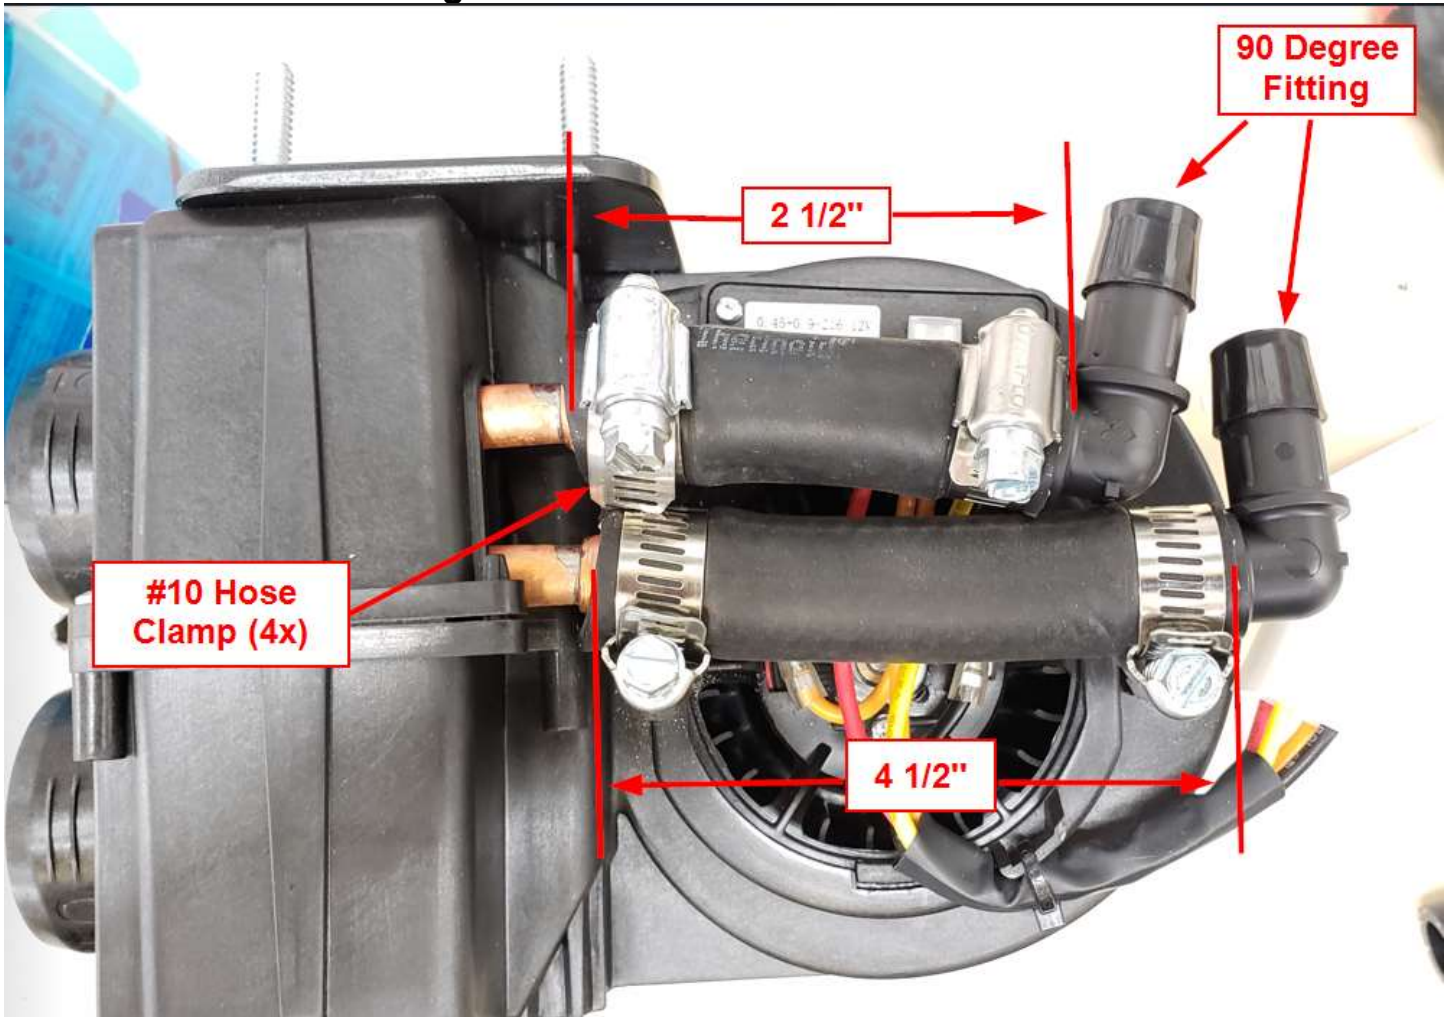

Figure 15
- d. Cut 2 1/2" piece of 5/8" Heater Hose and attach it to the Heater Unit as shown in Figure 15. Insert (1) 90 Degree Fitting as shown. Secure using #10 Hose Clamps.
- e. Cut a 4 1/2" piece of 5/8" Heater Hose and attach it to the Heater Unit as shown in Figure 15. Insert (1) 90 Degree Fitting as shown. Secure using #10 Hose Clamps.